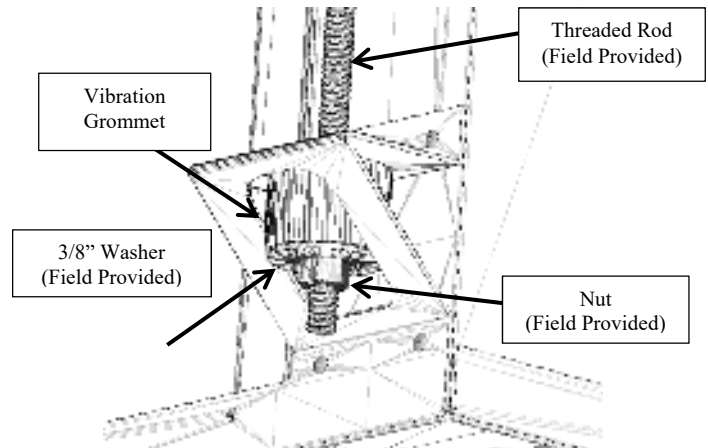

Figure 3 - Mounting Horizontal Units
four (4) vibration grommets (factory provided) and 3/8" washers (field provided) and as shown in Figure 3.